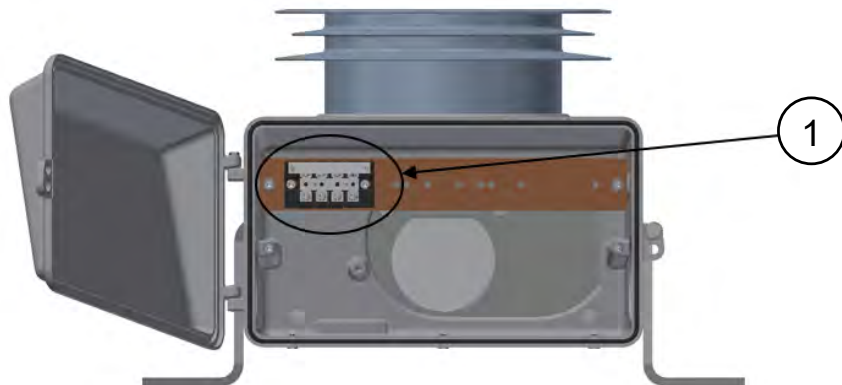

Fig. 10: Terminal box with secondary terminals
3. Guide the cables on the secondary side through the cable entry on the underside of the terminal box, Fig. 10.
4. Connect the secondary cables to the secondary terminals (M6) in the terminal box of the transformer (Fig. 10, → Tightening torque: max. 5 Nm).